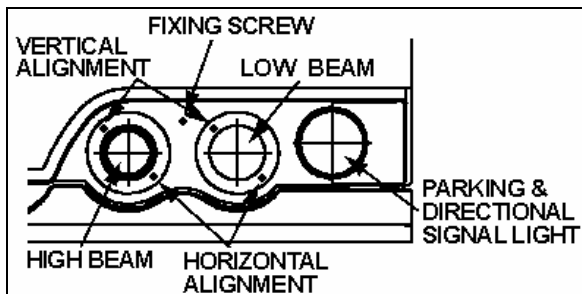

FIGURE 29: HEADLIGHT ASSEMBLY
Headlight aim should be checked after installing a new bulb. Aiming can be performed without opening headlight assembly. Horizontal and vertical aiming of each module is provided by two adjusting screws that pivot the module in the housing for proper alignment (fig. 29). There is no adjustment for focus since the module is set for proper focus during manufacturing assembly.
2. Remove the headlight screw fixing the headlight assembly, then tilt headlight assembly down (Fig. 29 and 30).